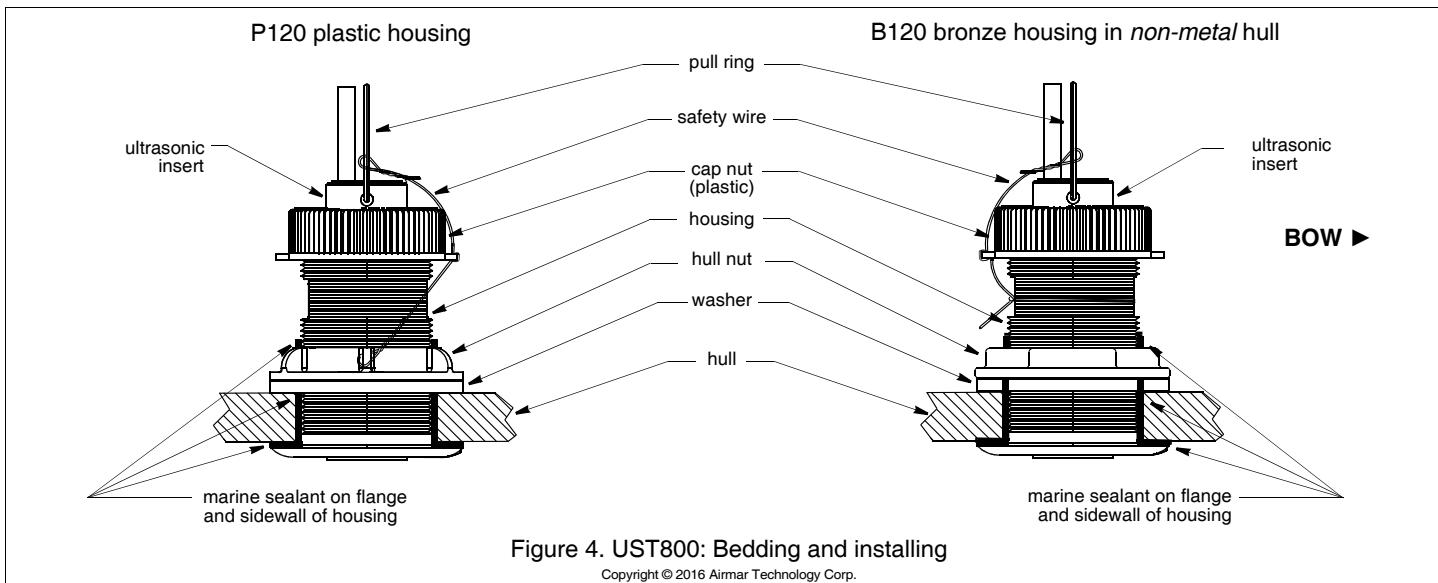

Figure 4. UST800: Bedding and installing
Apply a 2mm (1/16") thick layer of marine sealant around the flange of the housing that contacts the hull and up the sidewalls of the housing (Figure 4 or 5). *The sealant must extend 6mm (1/4") higher than the combined thickness of the hull, washer, and hull nut.* This will ensure there is sealant in the threads to seal the hull and to hold the hull nut securely in place.
1. From outside the hull, push the housing into the mounting hole using a twisting motion to squeeze out excess sealant (Figure 4 or 5). *Align the arrow on the flange of the housing pointing forward toward the bow.* If the sensor is not installed on the centerline, angle the housing slightly toward the centerline to align it with the water flow.
#### UST800 (Figure 4)
1. Remove the ultrasonic insert from the housing by removing the safety wire from the pull ring and the cap nut. Unscrew the cap nut (Figure 4).
4. Reattach the safety wire to prevent the blanking plug from backing out in the unlikely event that the cap nut fails or is screwed on incorrectly (Figure 4).
2. Remove the ultrasonic insert from the housing (Figure 4).
5. Slide the blanking plug into the housing. Seat it into place with a pushing twisting motion until the key fits into the notch in the housing. **Hand tighten** the cap nut. Do not over tighten. Reattach the safety wire (Figure 4).
9. Reattach the safety wire to prevent the ultrasonic insert/blanking plug from backing out in the unlikely event that the cap nut fails or is screwed on incorrectly (Figure 4).